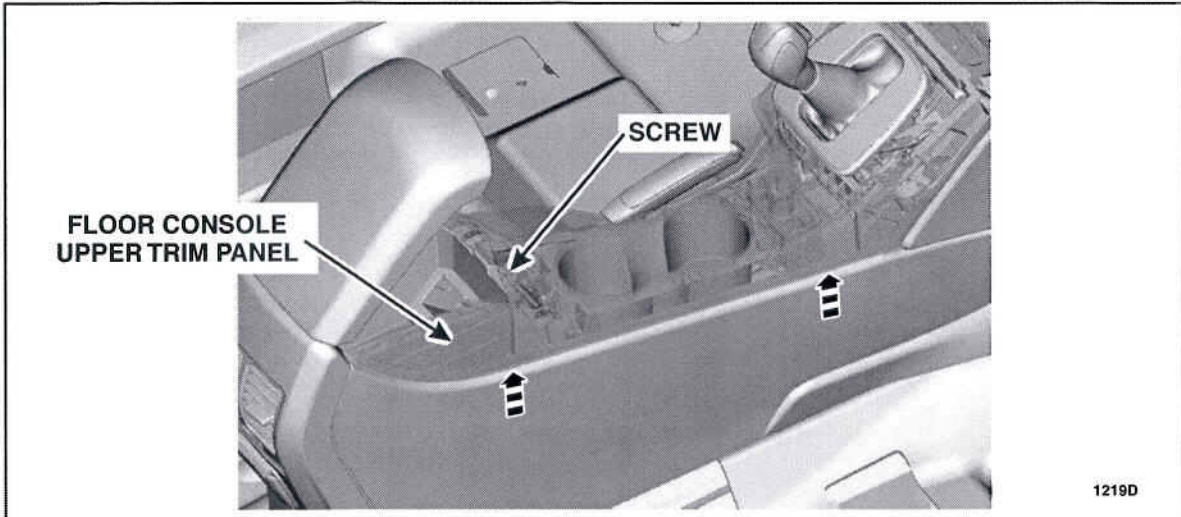

FIGURE 4
5. Position the floor console upper trim panel aside. See Figure 4.
11. Position the floor console upper trim panel back. See Figure 4.